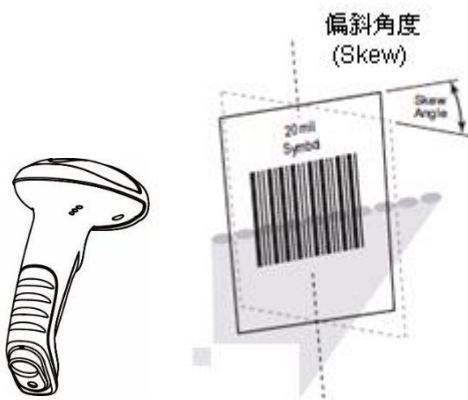

Fig. 1-14
- ◇ Skew:  $\pm 75^\circ$ ,  $0^\circ$  Roll and  $0^\circ$  Pitch (Fig. 1-14)